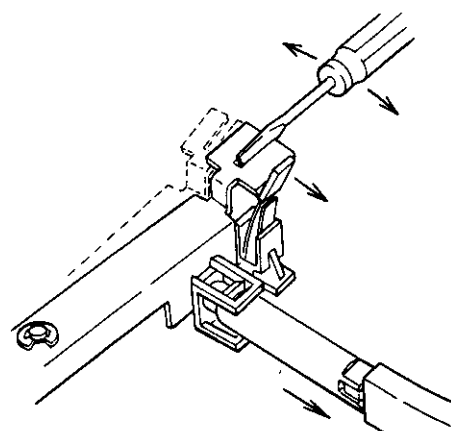

Fig. 21
1. Slowly press down on the REC lever so as to cause the REC/P.B switch to operate, and then adjust the tip of Fig. 21 using a screwdriver, until the leaf switch operates.